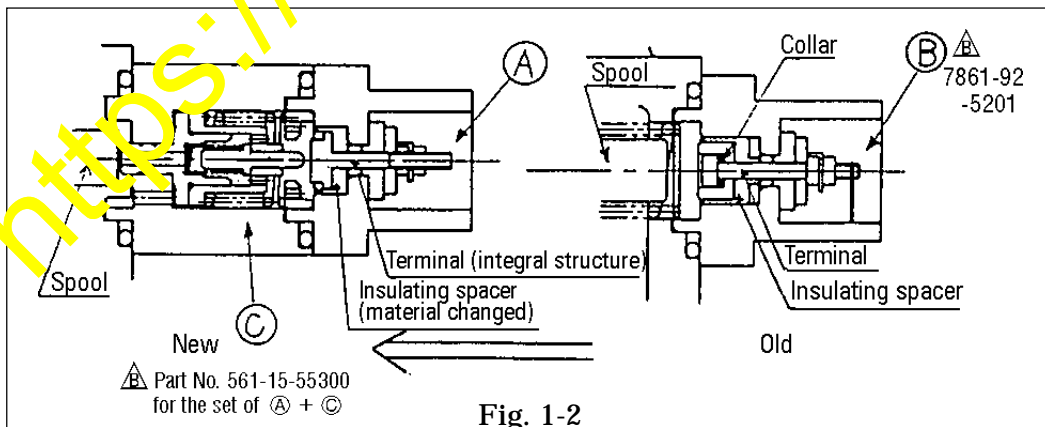

Fig. 1-2
- b) The operation structure of the low clutch fill switch has been changed. (See Fig. 1-2).